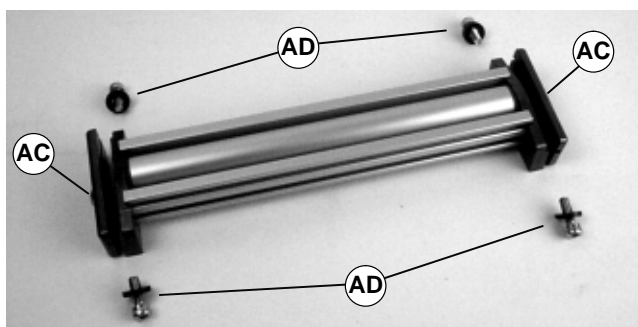

Figure 10
2. Loosen screws (AC of Figure 10) and remove screws and washers (AD).